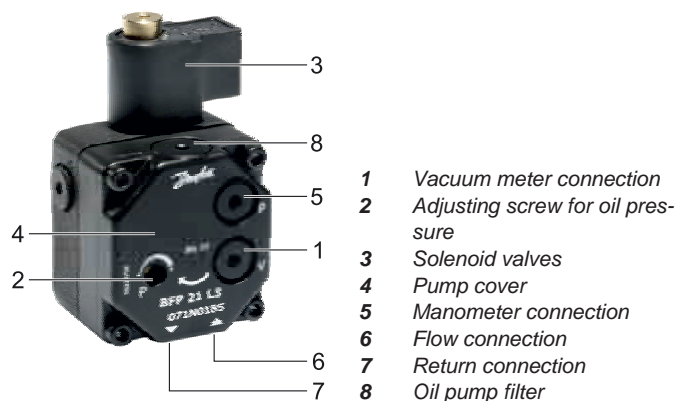

Fig. 7-4 Oil pump
- To increase pressure: Adjusting screw (fig. 7-4, pos. 2) for oil pressure to be turned to the **right**.
- To reduce the pressure: Adjusting screw (fig. 7-4, pos. 2) for oil pressure to be turned to the **left**.
- To check the oil pressure, connect the pressure gauge to the pressure gauge connection (fig. 7-4, pos. 5) of the oil pump.
- Connect vacuum meter to the V connection (fig. 7-4, pos. 1) and measure vacuum with active burner.